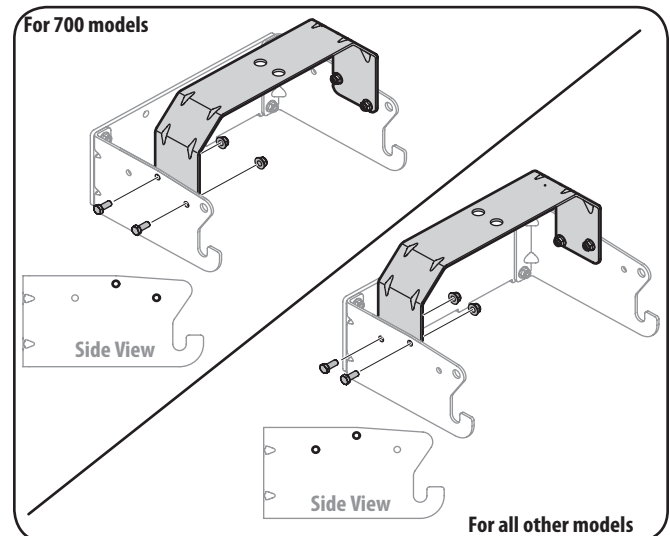

Figure 4-5
2. Flip over assembly and mount the hitch support bracket to the mounting assembly as seen in Fig. 4-5.
Note: The holes closest to the mounting hooks are to be used for all 700 model series machines, while the two holes closest to the cross mount are for all other models. The hitch support bracket will need to be flipped to enable alignment of the proper holes depending on the model of machine this bagger is being installed on. See Fig. 4-5.